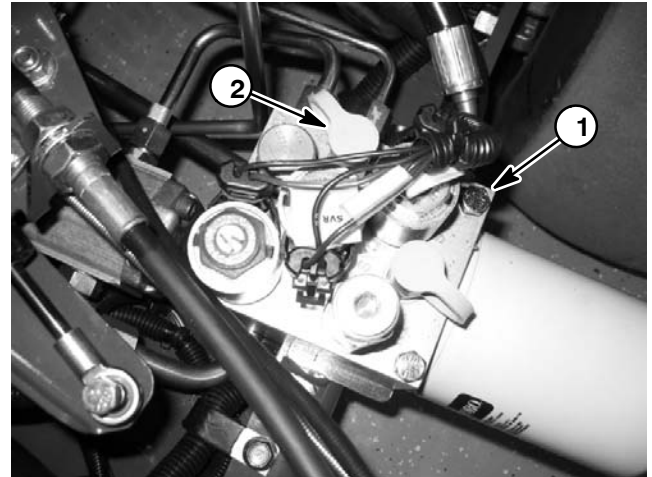

Figure 14
4. Connect pressure gauge to the hydraulic control manifold G2 port quick fitting (Fig. 14).
D. The charge pressure should drop no more than 15% from initial test reading (Step 8 above). A pressure drop of more than 15% indicates a traction circuit problem (e.g. damaged or leaking proportional valve (PV), worn or damaged piston pump (P1)).
4. Connect pressure gauge to the hydraulic control manifold G1 port quick fitting (Fig. 14).